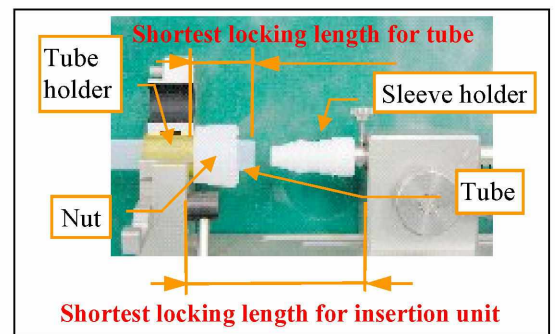

Fig. 17 - Shortest locking length
- Loosen insertion unit locking handle and lock the insertion unit at its shortest locking length (see Fig.17 and Table 11).
- Lock the tube with the clamp at the shortest locking length for the tube (see Fig.17 and Table11).